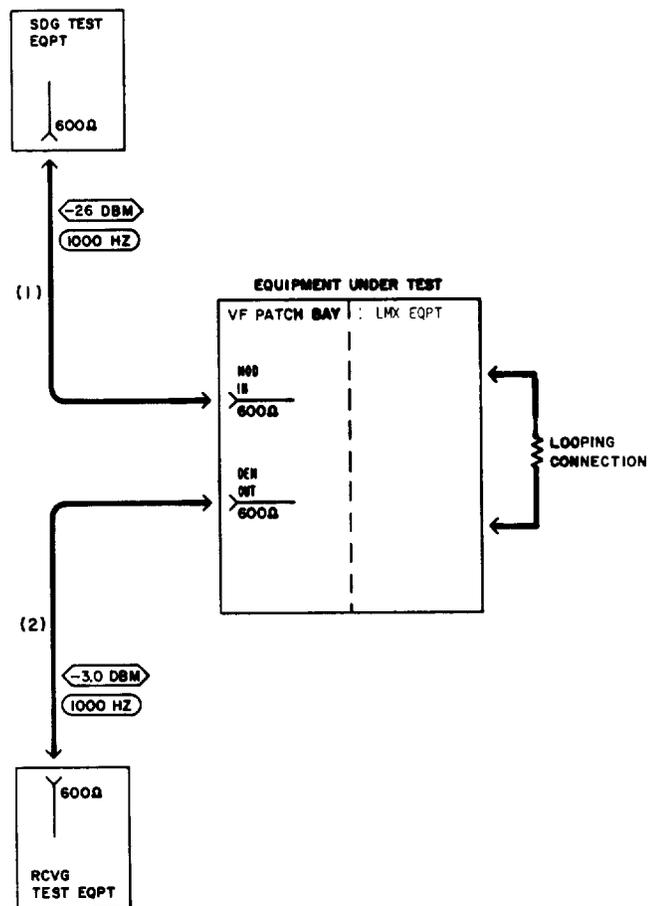

Fig. 10—Patching Diagram—Preparation
| 5 | Connect the STE to the MOD IN jack for Channel 1 of the channel bank under test [patch (1), Fig. 10]. |
| 6 | Connect the RTE to the DEM OUT jack for the channel under test [patch (2), Fig. 10]. |
| 8 | Remove patches (1) and (2), Fig. 10. |